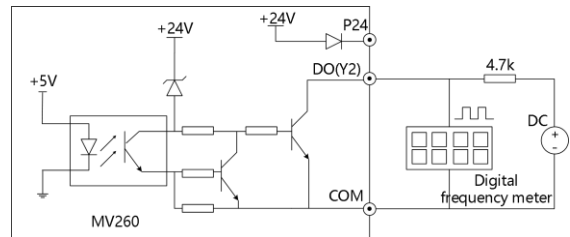

Fig.3-20 Connecting mode 2 of output terminal DO
(4) When the digital pulse frequency output DO (Y2 terminal used as DO) uses the external power supply, the wiring mode is as shown in Fig.3-20.